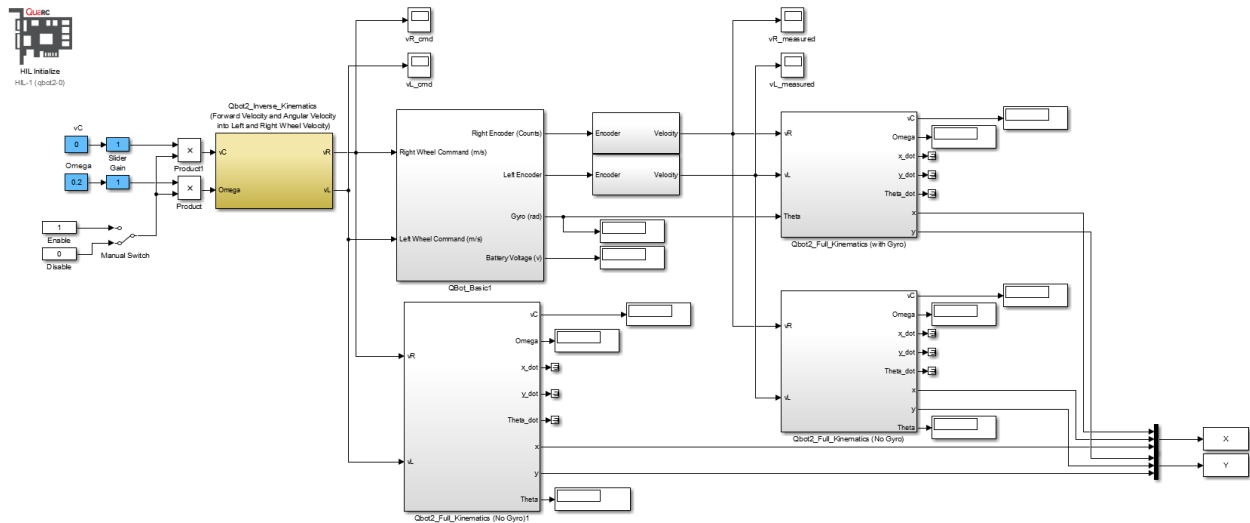

Figure 2.2: Snapshot of the controller model “QBot 2_Inverse_Kinematics.mdl”
The QUARC model for this exercise is called “QBot 2_Inverse_Kinematics.mdl” and is shown in Figure 2.2. In this model, the Inverse Kinematics block for the QBot 2 is shown in yellow and the input commands for v_C and ω_C are highlighted in blue.
1. Wait 5 seconds until the QBot 2 has fully initialized, and then enable the movement of the robot using the manual switch shown in Figure 2.2.